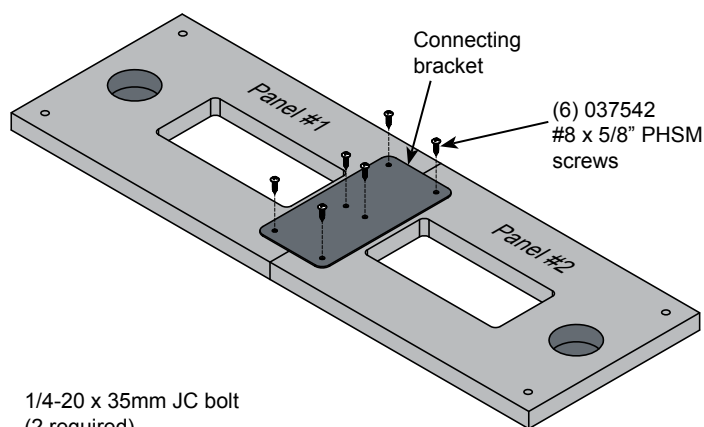

Figure 1
1. Locate the two panels next to each other as shown with the (6) mounting holes up. **Figure 1.**
2. Assemble the two panels together using the connecting bracket and (6) #8 x 5/8" PHSM screws.